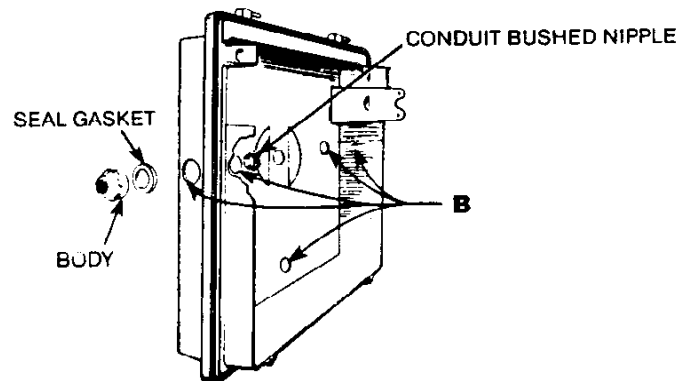

FIGURE 3.
Then punch out five (5) knockouts **B** in side and back of die-cast base. (See Figure 3.)